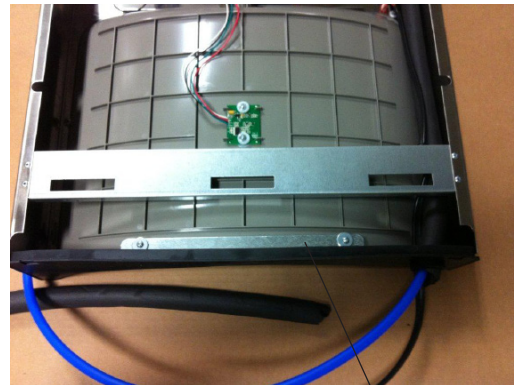

Fig. 9
- 1) Remove two (2) mounting screws with 5/32" Allen wrench holding top cover to Bottle Filler (See Fig. 9). Remove top cover. Note do not discard mounting screws, they will be needed to reinstall top cover.
- 6) Install gasket on bottom of bottle filler tower with gasket support bracket, (2) washers, & (2) screws (See Fig 9).